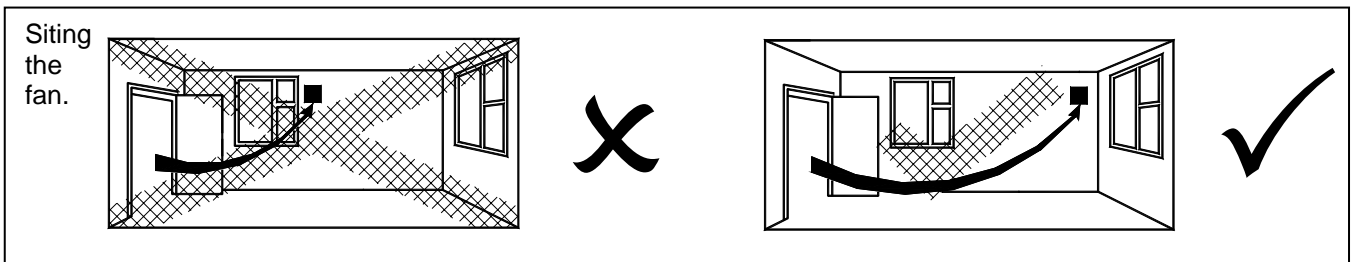

Fig.1 Continuous trickle (6l/s or 9l/s) with no manual boost facility (boosts automatically via CO2 or Humidity sensor)
1. Select and follow the appropriate wiring diagram. (Fig. 1, 2 or 3)